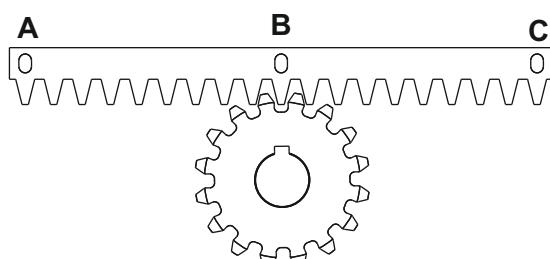
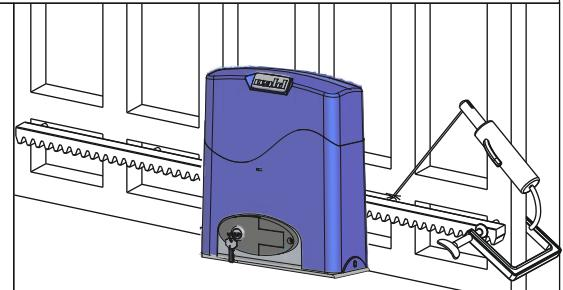

Fig. 17
Fig. 18
- c) Lean the gear rack element on the toothed pinion of the operator in parallel to the ground slideway of the gate, as shown in Fig. 17 and electrically weld the central pawl **B** to the gate structure (Fig. 18). Manually move the gate until pawl **C** is placed in front of the pinion and fix it through electric welding. Repeat the same procedure for pawl **A** after having placed it in front of the pinion;